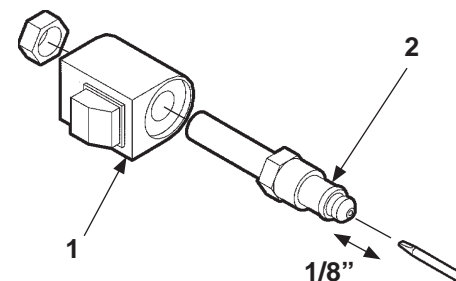

FIG. 45-2
2. Check the valve stem by removing the coil assembly (**Item 1, FIG. 45-2**). With platform on ground, unscrew the valve stem, (**Item 2, FIG. 45-2**) from the pump. Push on the plunger that is located inside the valve stem by inserting a small screwdriver blade in the end. If the plunger does not move freely (approximately 1/8") replace the valve stem. **When reinstalling valve stem, torque hex nut to 30 in-lbs.**